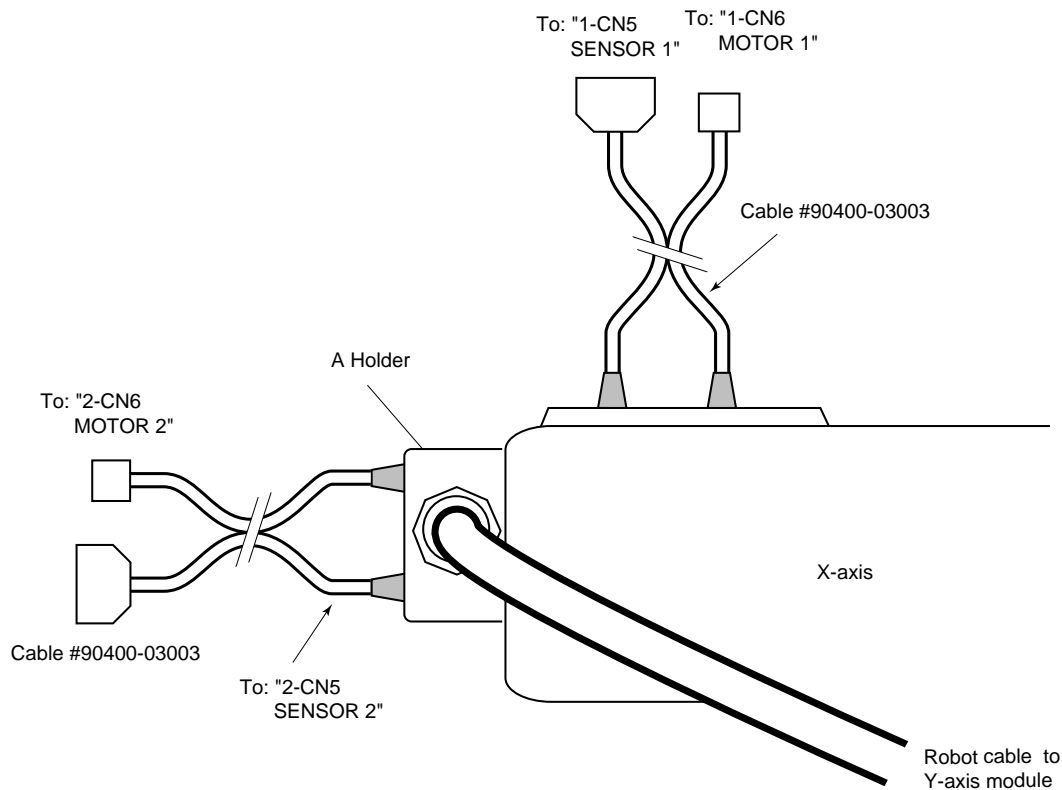

Figure 4-34. Connecting to an EXA or EXC Controller
- a. Connect the two barrel ends of the cable to the X-axis module as shown in Figure 4-34. These connectors have different pin sizes and cannot be installed incorrectly. The other ends connect to the controller connections marked “1-CN6 MOTOR 1” and “1-CN5 SENSOR 1”.
- b. Attach the A holder end of the robot cable to the motor end face of the X-axis module as shown in Figure 4-34 (refer to Section 4.3 for holder mounting).
- d. Connect the two barrel ends of the controller cable to the Z-axis robot cable holder on the X-axis module as shown in Figure 4-34. These connectors have different pin sizes and cannot be installed incorrectly. The other ends connect to the controller connections marked “2-CN6 MOTOR 2” and “2-CN5 SENSOR 2”.